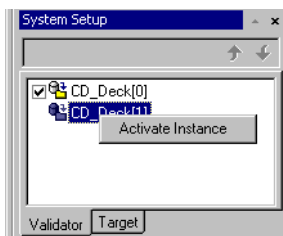

Figure 146: System Setup window (Validator)
- 1 Open the System Setup window. See *Figure 146*, page 178.
See *Figure 146*, page 178.